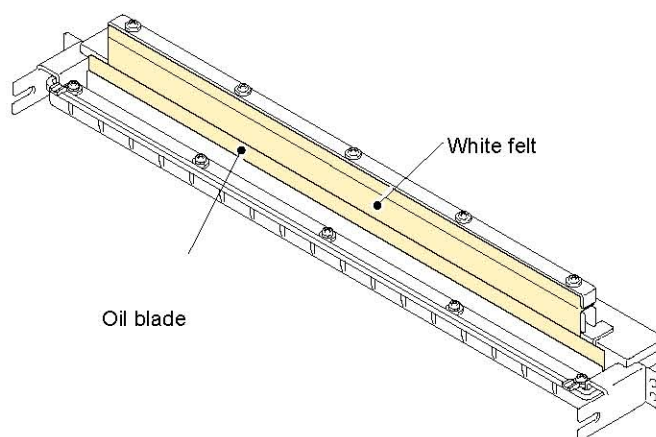

Fig. 6-11
- (3) Release the belt cartridge lock levers at both sides (left & right). (Fig.6-11)
- (4) Pull out the OPC belt cartridge.